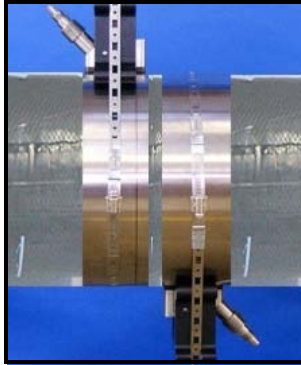

Figure 3-28: Completed DMP-1 Installation
6. Wrap each of these strips around the pipe on the outside edge of the clamping fixture, one upstream and one downstream. The completed installation should appear similar to Figure 3-28 on the next page.